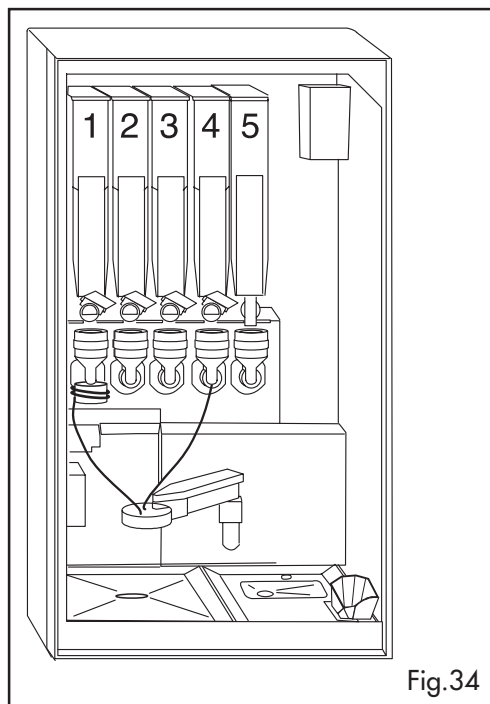

Fig.34
- Regular soluble coffee (not decaffeinated) must be placed in the bin ref. 4 (Fig. 34)
- If you want to use decaffeinated soluble coffee, it must be placed in the bin ref. 5 (Fig. 34)
- In the programming mode, it is possible to enable the "DECA PRE-SELECTION" (decaffeinated pre-selection) function, which allows the user to choose regular or decaffeinated coffee. If this pre-selection mode is activated, during the programming mode, beverages including coffee (ref. 4 Fig. 34) will automatically require the option of programming decaffeinated coffee (ref. 5 Fig. 34).